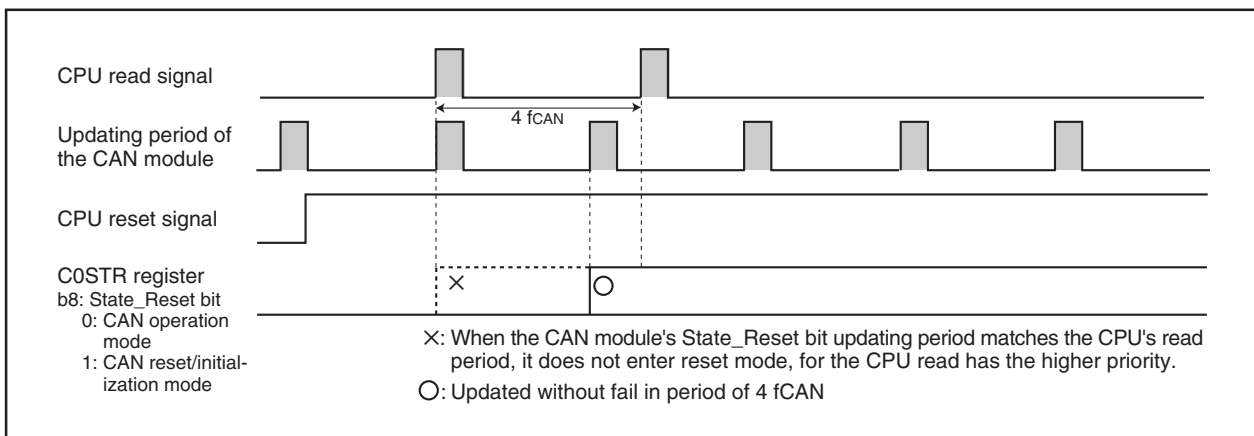

Figure 23.5 When Polling Period of CPU is 3 fCAN or Longer
- (b) When the CPU polls the C0STR register, the polling period must be 3 fCAN or longer. (See **Figure 23.5 When Polling Period of CPU is 3 fCAN or Longer.**)